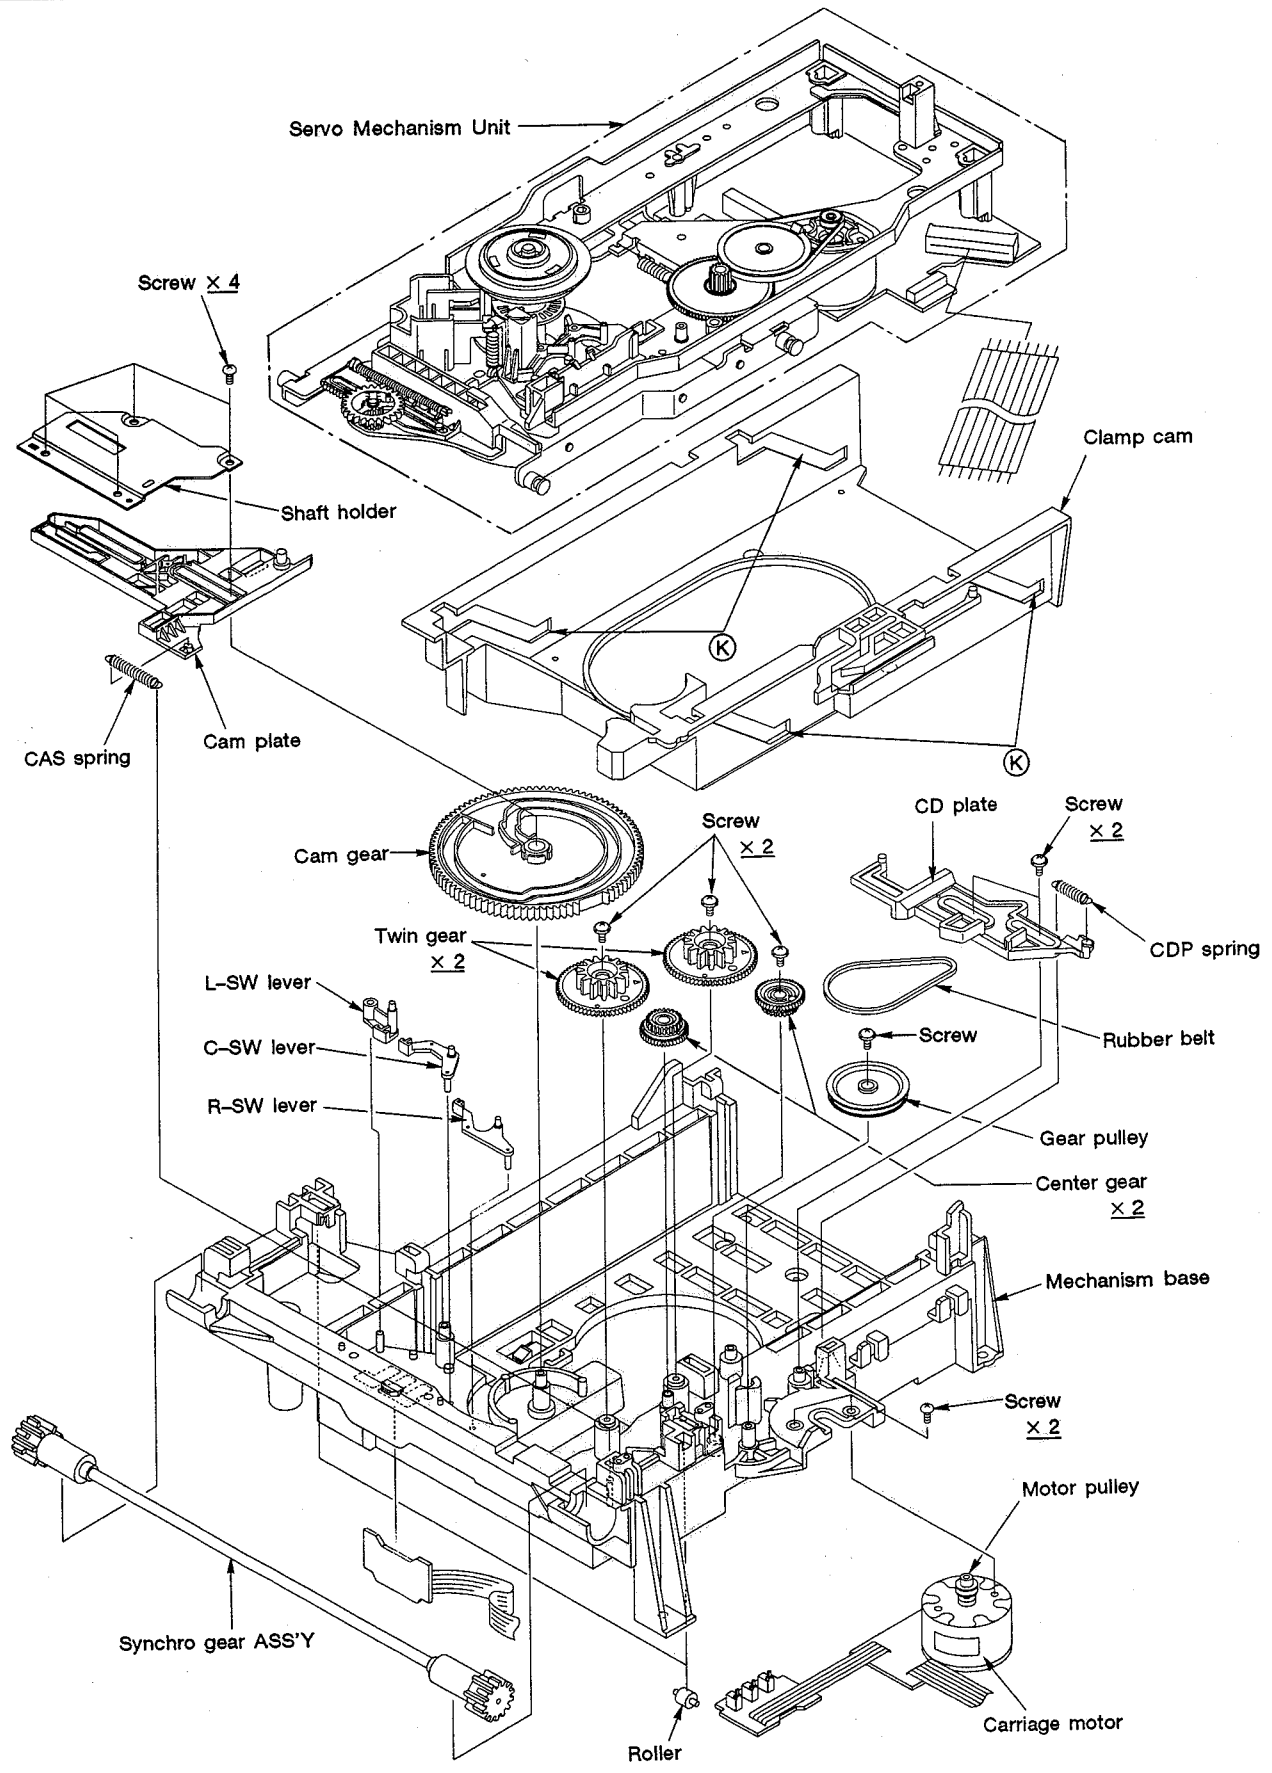
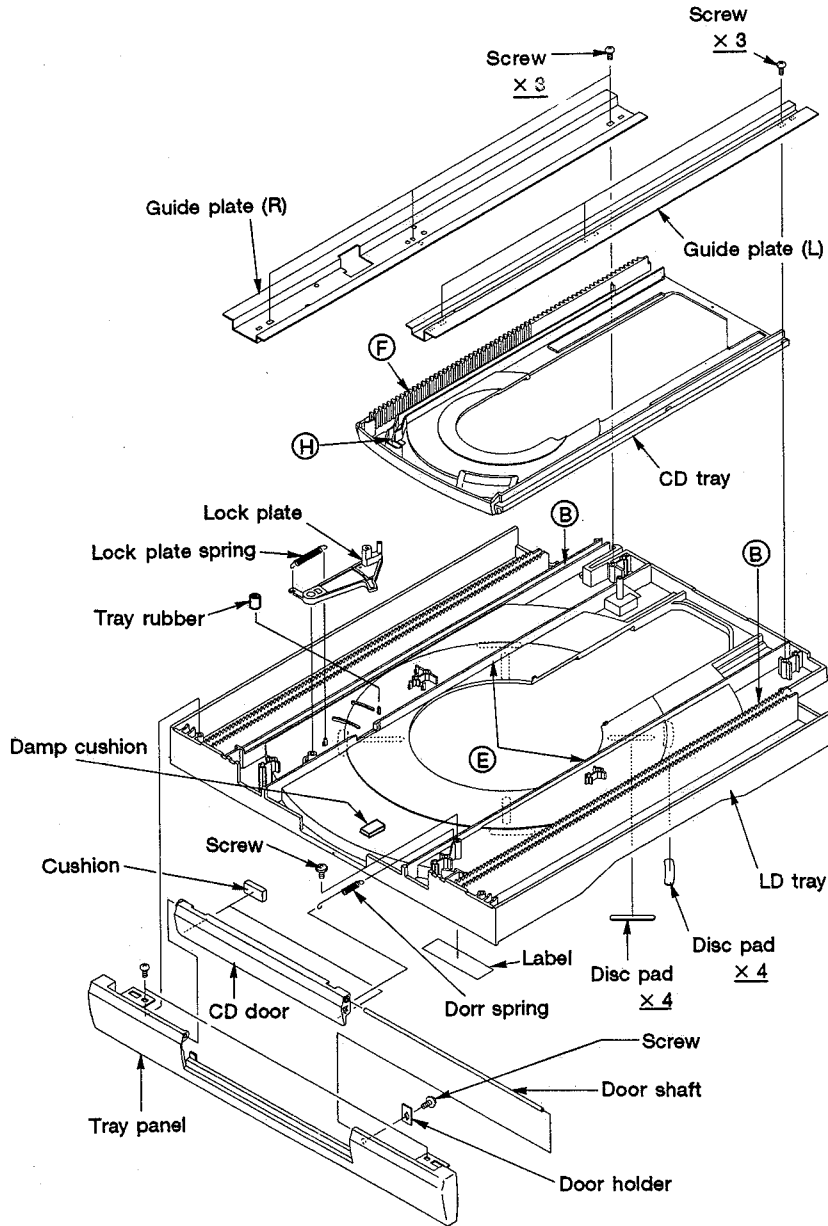
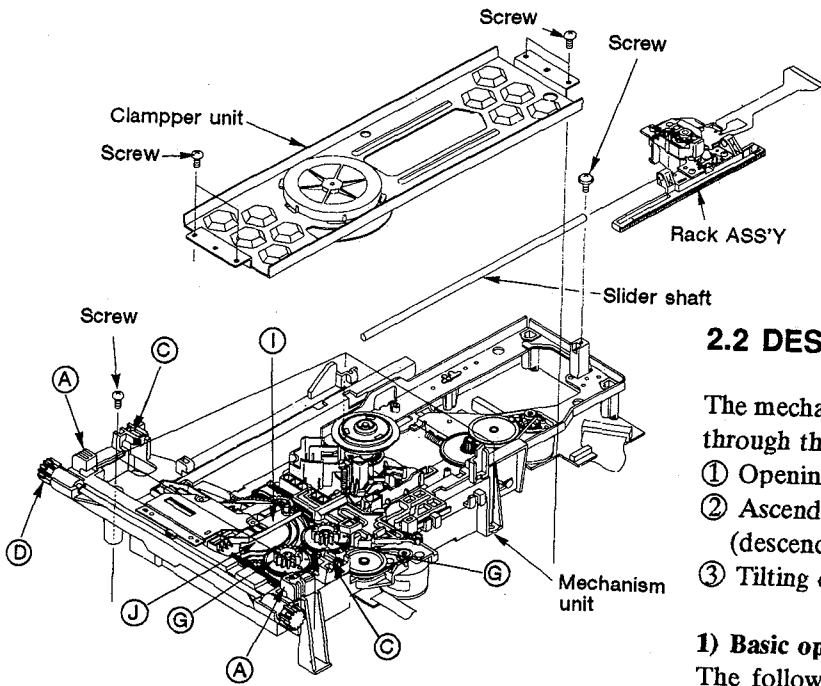
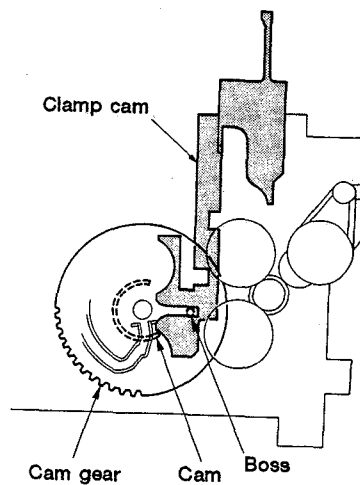

Fig. 2-2 Loading Mechanism unit
Fig. 2-4 Tray unit (Bottom view)
Fig. 2-5 Mechanical unit
Fig. 2-7
- ① Loading mechanism unit (Fig. 2-2)
- ③ Tray unit (Fig. 2-4)
#### ① Loading Mechanism Unit (Refer to Fig. 2-2)
By attaching the servo-mechanism unit and tray unit to the loading mechanism unit, the operations of the mechanism are completed without using the casing and other supporting components (Fig. 2-2) (excluding the operations of the clamper unit and clamp).
③ Tray Unit (Refer to Fig. 2-4 and Fig. 2-5)
As a support system to the tray unit, two protruding portions ① (Fig. 2-5) are located on the front, left of the mechanism base, and a cam groove ② (Fig. 2-4) is located on the bottom side for the left/right movements
of the LD tray. Rollers ③ (Fig. 2-5) are located on the left and right of the mechanism base, and a synchro gear assembly ④ exists for the up/down movements of the LD tray. The synchro gear assembly ensures left/right synchronization. As for the CD tray, a protruding rib ⑤ (Fig. 2-4) is located on the bottom side of the LD tray for the left/right movements, while guide plates are located on the left and right of the rib for the up/down movements.
① Loading the Tray
While the rack gear ⑥ (Fig. 2-4) and twin gear ③ (Fig. 2-5) the bottom side of the CD tray are engaged, the cam gear ⑩ is engaged with the twin gear ③ by moving the cam plate ① through the cam ④ (Fig.2-4) on the bottom side of the CD tray. (The rack gear on the bottom side of the CD tray is separated from the twin gear.)
② Ascending of the Servo-Mechanism Unit
The clamp cam is moved towards the rear by engaging the cam and boss on the back side of the cam gear to the clamp cam (Fig. 2-7). The servo-mechanism assembly ascends through the cam ⑫ (Fig. 2-2) on the clamper cam.